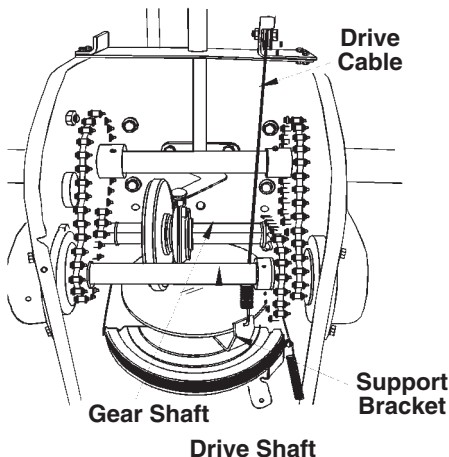

FIGURE 2.
1. Remove rear cover. Oil any chains, spockets, gears, bearings, shafts, and shifting mechanism at least once a season. Use engine oil or a spray lubricant. **Avoid getting oil on rubber friction wheel and aluminum drive plate.** See figure 2.
2. If for any reason your transmission was disassembled and the drive cable disconnected, make sure when reassembling to pass the cable between the drive shaft and the gear shaft before reconnecting to support bracket. See figure 2.